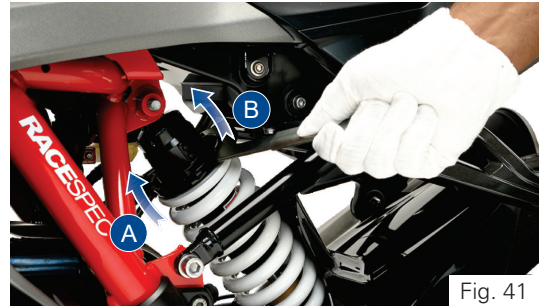

Fig. 41
- Locate the adjuster shock absorber rear and handle ring spanner of tool kit (**ref. page 162**) properly into the notches of pre-load adjuster (ref. Fig. 41).
- Carefully rotate the adjuster clockwise (A) to increase the pre-load (hard suspension).
- Else, rotate the adjuster in anti-clockwise (B) to decrease the pre-load (soft suspension).